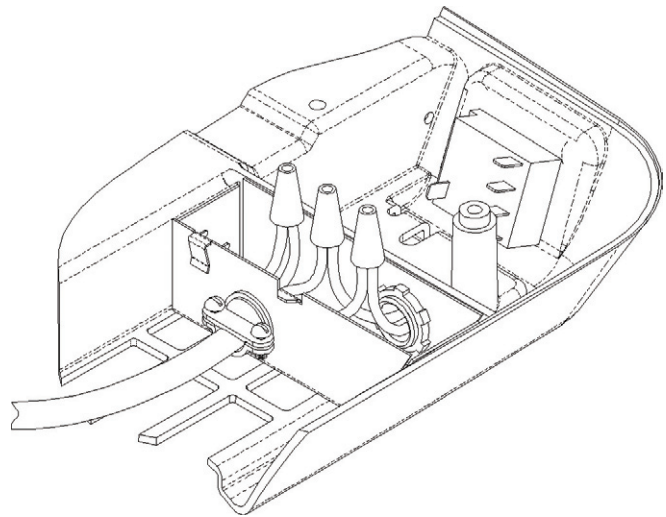

FIGURE 6
- E. Insert the supply wiring through the cable clamp and into the field wiring box so that 4 - 6" (10 cm to 15 cm) of supply conductor is inside the box. Secure the cable clamp over the supply wire sheath so that no movement is possible (See Figure 6).
approved electrical tape, secure the wire nuts to wires in a workmanlike manner (See Figure 6).